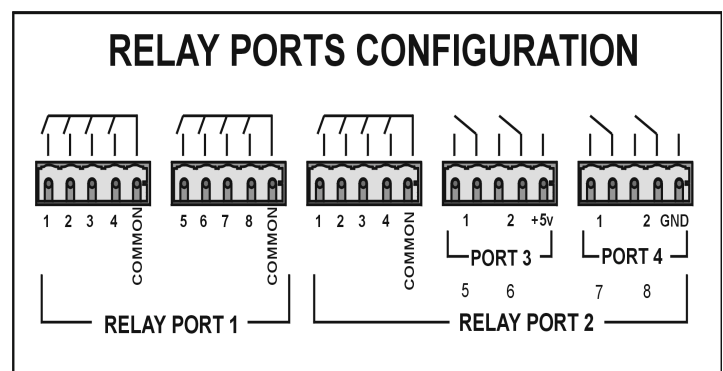

FIGURE 7
- b** This letter designates the relay number. The position of this number corresponds to the number shown on the diagram of the terminal block connector layout on the back of the **CP7317RS** (See figure 7). For example **b₅** is a fifth relay on the connector. Valid range for b is 1 or 0. Any other numbers will cause error as a feedback code.